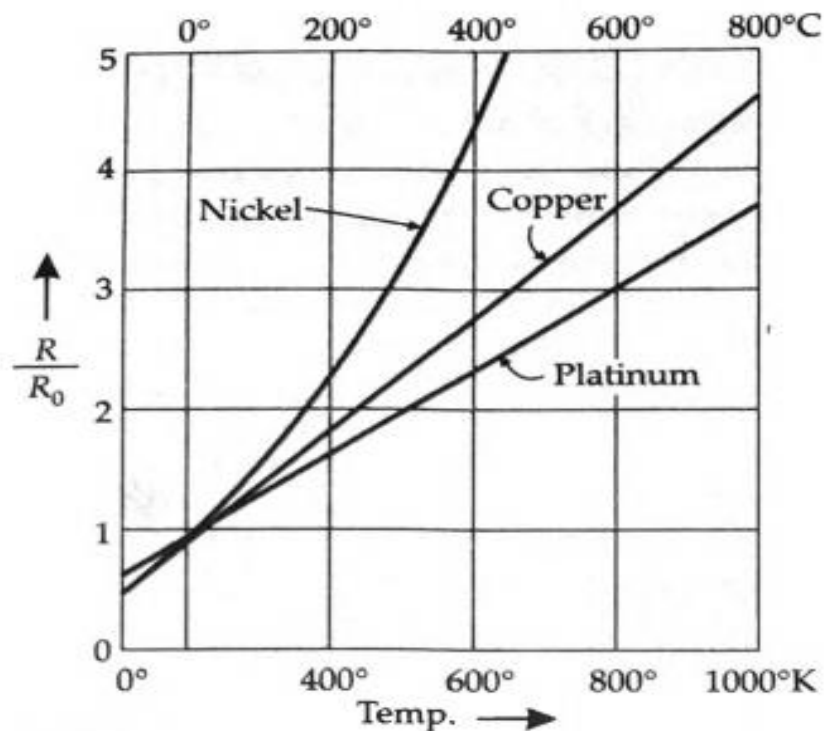

Figure 2 Characteristics of materials used for resistance thermometers.
- The characteristics of various materials used for resistance thermometers are plotted in *Figure 2*.
An examination of the resistance versus temperature curves of Figure 2, shows that the curves are nearly linear. In fact, when only short temperature spans are considered, the linearity is more evident.